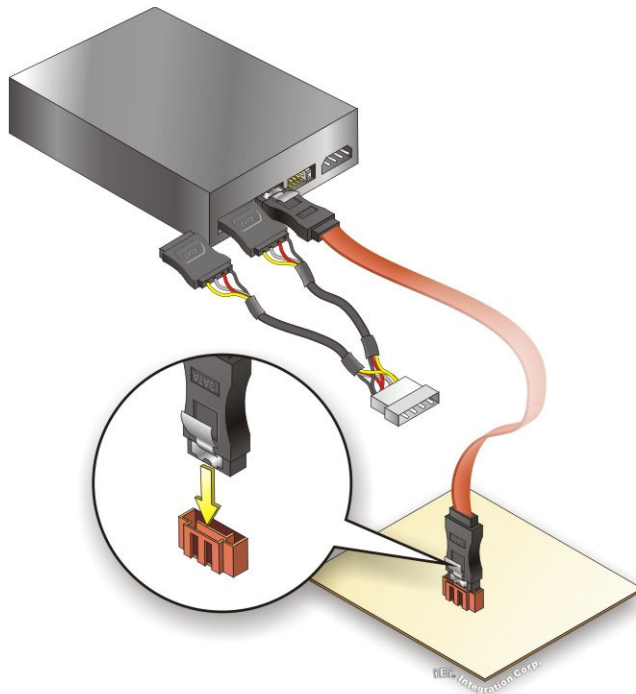

Figure 4-19: SATA Power Drive Connection
Step 3: **Connect the cable to the SATA disk.** Connect the connector on the other end of the cable to the connector at the back of the SATA drive. See **Figure 4-19**.
Step 4: **Connect the SATA power cable.** Connect the SATA power connector to the back of the SATA drive. See **Figure 4-19**.